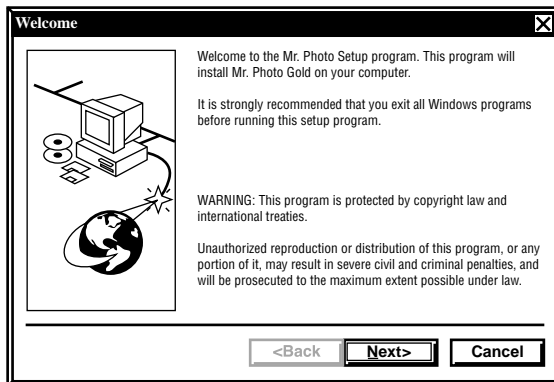

Figure 4-1. Welcome screen.
6. The Welcome screen appears, as shown in **Figure 4-1**. Click **Next**.